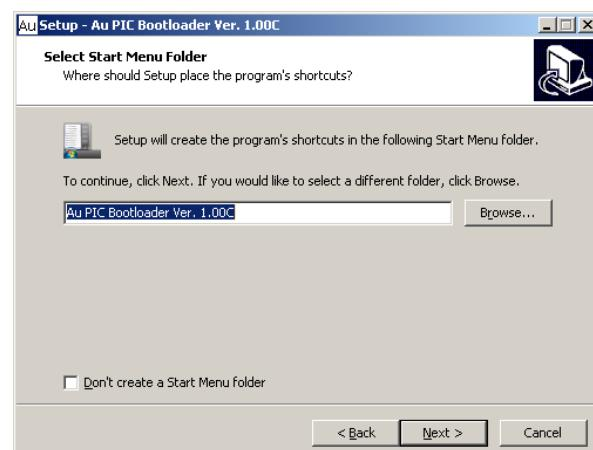

Figure C-5
- “Select Start Menu Folder” window will show up. Use default setting “AU PIC Boot-loader”, then click “next” (Figure C-5).